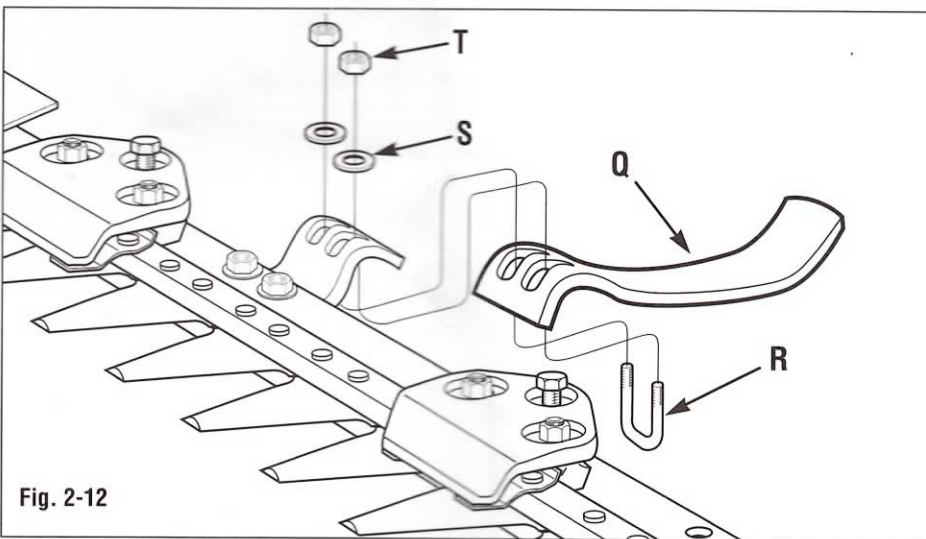

Fig. 2-12
13. Securely attach the shoes (Q, Fig. 2-12) to the bottom of the holders with a U-bolt (R), 5/16" flat washers (S) and 5/16"-18 locknuts (T). Adjust the shoes the same, to level the cutter bar assembly.